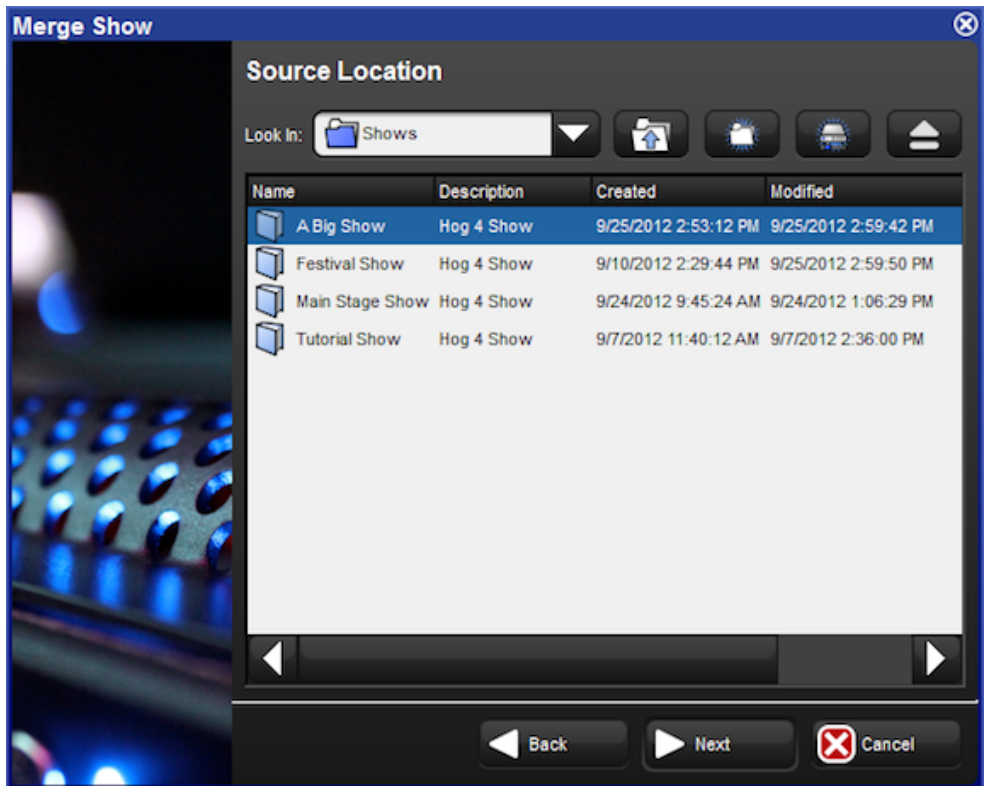

Figure 4.4. The Source Location page of the Merge Show window
2. Press Merge to be guided through the merge process. The Merge Show window will open; see Figure 4.4, “The Source Location page of the Merge Show window”.